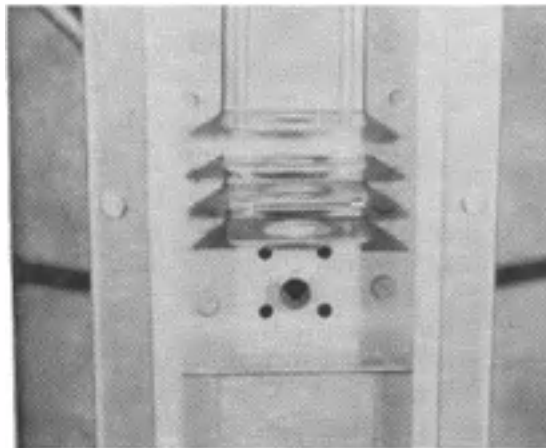

FIG. 23
16. Replace the four (4) screws securing vent assembly to rear of fryer. **NOTE:** Vent tube must protrude through vent assembly at least 1/2" (See Figure 23).
17. Connect the two (2) solenoid wires to harness wires.
4. Remove the seven (7) screws securing Danger Label panel and right rear panel to fryer. Save panels and screws for reuse.
6. Disconnect the two (2) vent solenoid wires from harness wires at insulated terminals (See Figure 23).
7. Remove the four (4) screws securing vent block to vent assembly. Save screws, block and ball (if applicable) for reuse.